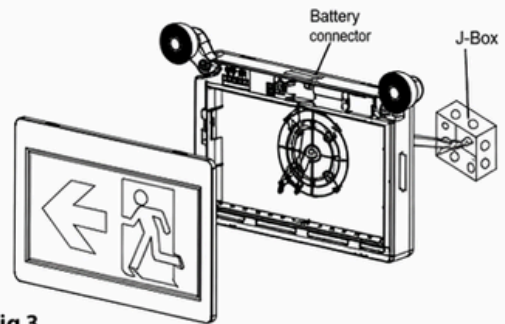

Fig 3
2. Knockout appropriate mount screw hole and cable hole, mount back plate on the wall after feed building AC supply cable into back plate (see Fig 3).